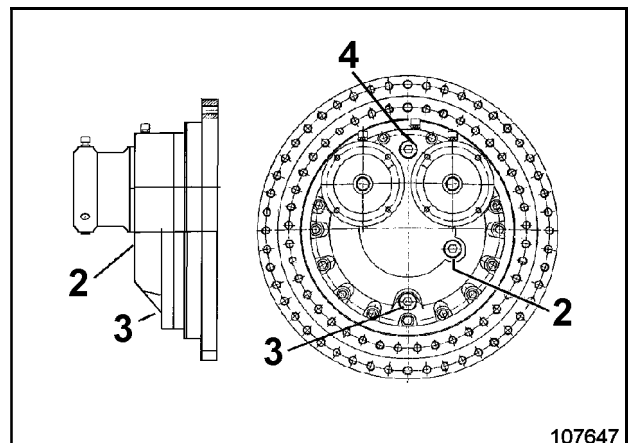

Fig. 3-90:
- Unscrew drain plug (3, Fig. 3-90:) and drain off the oil completely.